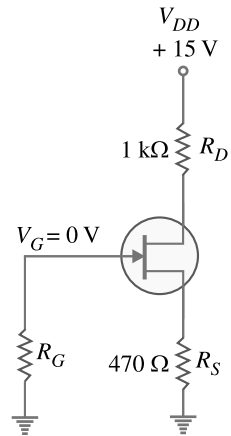

Fig. 17.26
**Example 17.14.** Find  $V_{DS}$  and  $V_{GS}$  in Fig. 17.26, given that  $I_D = 5 \text{ mA}$ .